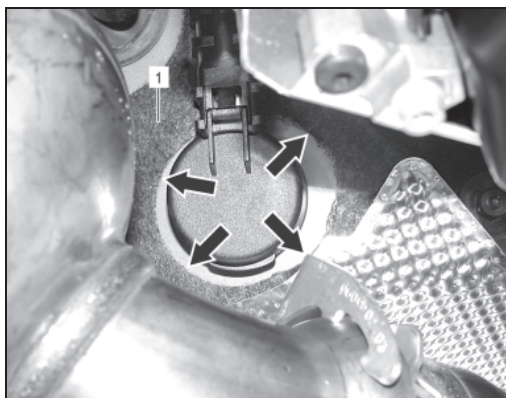

Figure 4 P-B-54.18/108
**i** **Note:** Ensure that the damping mat is not caught between the body and the cap (Figure 4). This tilted installation position may cause contact problems between the cap and the terminal point.